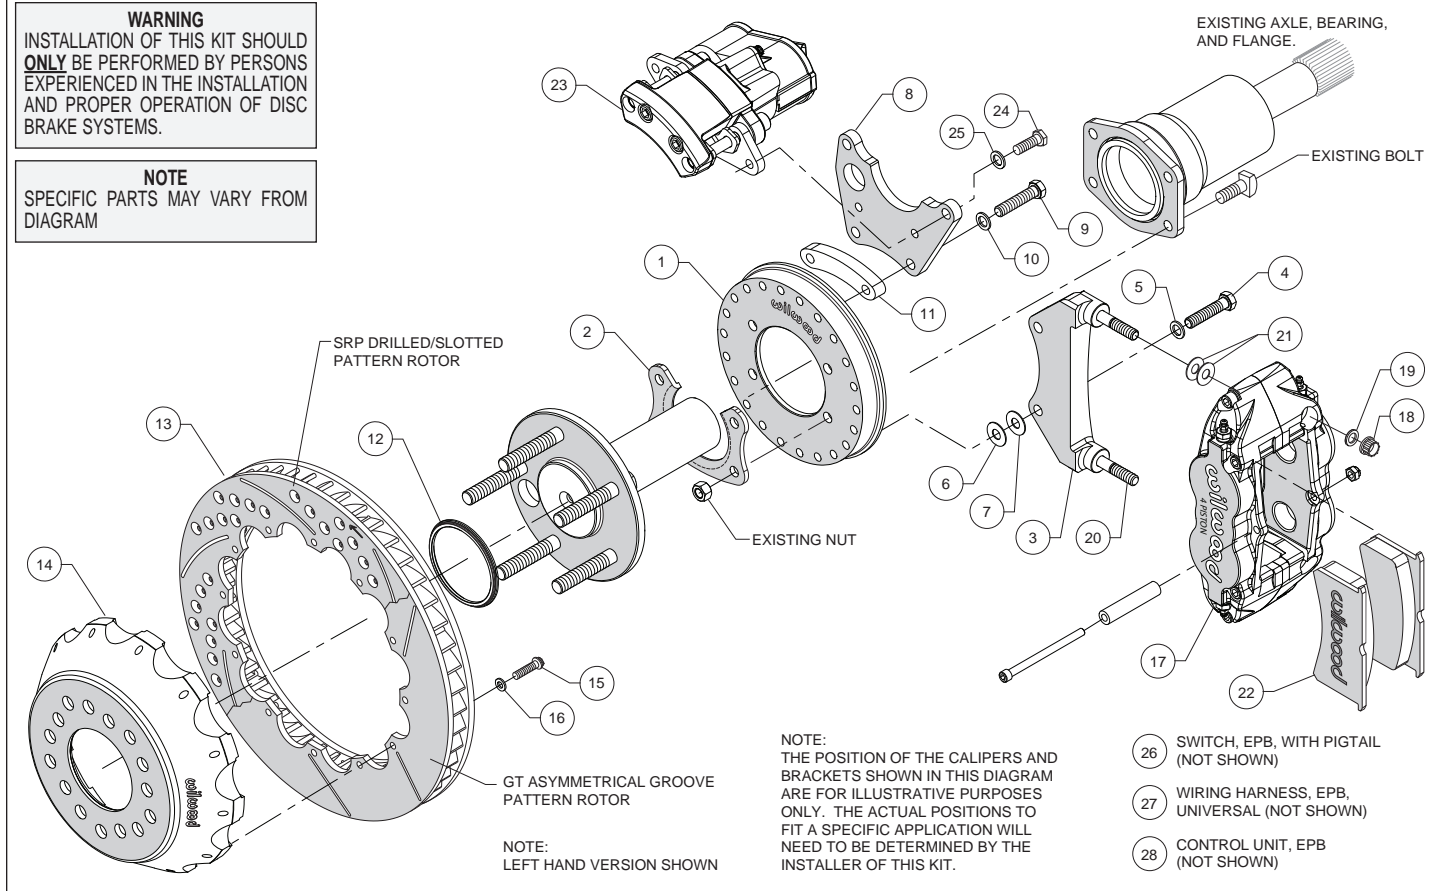
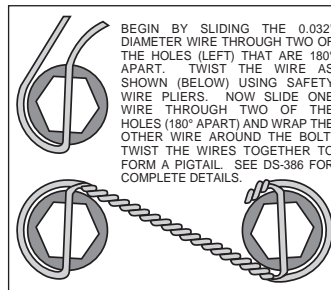

Figure 1. Typical Installation Configuration
Figure 5. Safety Wire Diagram
(numbers in parenthesis refer to the parts list, and Figure 1 on the preceding pages):
- Orient the backing plate (1) as shown in Figure 1 and Photo 1, and slide it onto the axle housing flange. Ensure the backing plate fits flush against the axle housing flange. Reinstall the axle into the axle housing.
- Install the bearing retainer (2) with the opening pointing upward and the lip facing inward (toward the bearing), as shown in Figures 1 and 4, and Photo 2. Secure retainer and backing plate to the axle housing flange using the Original Equipment Manufacturer (OEM) bolts and nuts, Figure 1 and Photo 3. Apply red *Loctite*® 271 to the OEM bolt threads and torque to OEM specifications.
- Start by determining the best location for the service caliper (17). This caliper is usually mounted in the 3:00 or 9:00 o'clock position, but may be rotated up or down approximately 45 degrees and still allow for proper bleeding, Photo 4. Orient the service caliper bracket (3) as shown in Figure 1 and Photo 5, and install to the backing plate (1) in the desired location using bolts (4) and washers (5). Temporarily tighten bolts. Next, mount the service caliper onto the bracket. Lubricate the caliper mounting studs (20) with lightweight oil. Mount the service caliper using lock nuts (18) and washers (19), Figure 1. Temporarily tighten the lock nuts. Check that the caliper (including inlet fitting and hose) has sufficient clearance to all surrounding components through the full suspension travel. Relocate the caliper/bracket on the backing plate as needed to ensure proper clearance is achieved.
- Determine the best location for the EPB caliper (23). **NOTE:** *The EPB caliper motor extends farther inboard than the service caliper and therefore needs additional consideration when determining a mounting location with sufficient clearance.* In the example application shown in Photo 6, the EPB caliper has sufficient inboard clearance to the leaf spring. However, if the EPB caliper were mounted closer to the 12:00 o'clock position, the inner body of the vehicle would hit the caliper during full compression of the suspension.
•Orient the EPB caliper bracket (8) as shown in Figure 1 and Photo 7, and install to the backing plate (1) in the desired location using bolts (9), washers (10), and spacer (11). Temporarily tighten bolts. **NOTE:** The EPB bracket is reversible. In one direction the bracket will position the EPB caliper closer to the service caliper, and vice versa if reversing the bracket. Next, mount the EPB caliper (23) to the bracket using bolts (24) and washers (25). Temporarily tighten bolts. **NOTE:** EPB calipers are Left and Right handed, however they can be used on either side of the vehicle to best suit your specific application. Check that the EPB caliper (including wiring harness connector) has sufficient clearance to all surrounding components through the full suspension travel. Relocate the EPB caliper/bracket on the backing plate as needed to ensure proper clearance is achieved.
•Once the caliper positions have been determined, remove both the service (17) and EPB (23) calipers, leaving both brackets in place on the backing plate. For the EPB bracket, remove the bolts one at a time, apply red *Loctite*® 271 to the threads, and torque to 35 ft-lb. The service caliper bracket will be final installed after shimming is determined.
•Orient the rotor (13) and the hat (14) as shown in Figure 1 and Photo 8. Attach rotor to hat using bolts (15) and washers (16). Using an alternating sequence, apply red *Loctite*® 271 to the threads, and torque to 155 **in-lbs**. For an added measure of security, the bolts may be safety wired using standard 0.032 inch diameter stainless steel safety wire as shown in Figure 5. Please refer to Wilwood's data sheet DS-386 (available at [www.wilwood.com/Pdf/DataSheets/ds386.pdf](http://www.wilwood.com/Pdf/DataSheets/ds386.pdf)) for complete safety wire installation instructions.
•Initially place two .035" thick shims (21) on each stud of the service caliper bracket (3), as shown in Figure 1 and Photo 10. Mount the caliper onto the bracket using lock nuts (18) and washers (19), Figure 1. Temporarily tighten the lock nuts and view the rotor through the top opening of the caliper. The rotor should be centered in the caliper, Photo 11. If not, adjust by adding or subtracting shims (6 and/or 7)) between the service caliper bracket (3) and the backing plate (1). Always use the same amount of shims on each of the two mounting bolts. Once the caliper alignment is correct, remove the bracket mounting bolts (4) one at a time, apply red *Loctite*® 271 to the threads, and torque bolts to 35 ft-lb.
- Mount the EPB caliper (23) onto the caliper mounting bracket (8) using bolts (24) and washers (25), Figure 1. Apply red *Loctite*® 271 to bolt threads, and torque to 30 ft-lb.
• **NOTE:** The service caliper (17) in this brake kit utilizes a 1/8-27 NPT pipe thread inlet. OEM rubber brake hoses generally cannot be adapted to Wilwood calipers. The preferred method is to use steel adapter fittings at the caliper, either straight, 45 or 90 degree and enough steel braided line to allow for full suspension travel. **Carefully route hoses to prevent contact with moving suspension, brake or wheel components.** **NOTE:** Wilwood hose kits are designed for use in many different vehicle applications and it is the installer's responsibility to properly route and ensure adequate clearance and retention for brake hose components. Wilwood offers universal brake flex line hose kits, domestic (3/8-24 IF) chassis fittings, order: